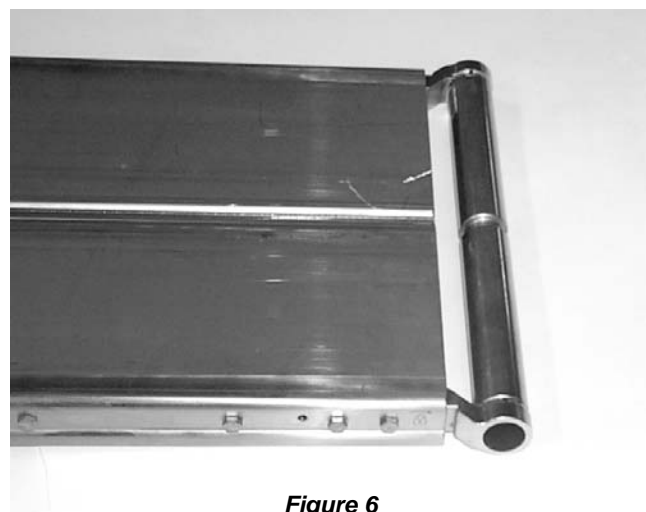

Figure 6
2. Compress tensioning end (Figure 6). Refer to steps 4 and 5 under the “Belt Removal for Conveyor Without Gearmotor Mounting Package or Stands” on page 9.